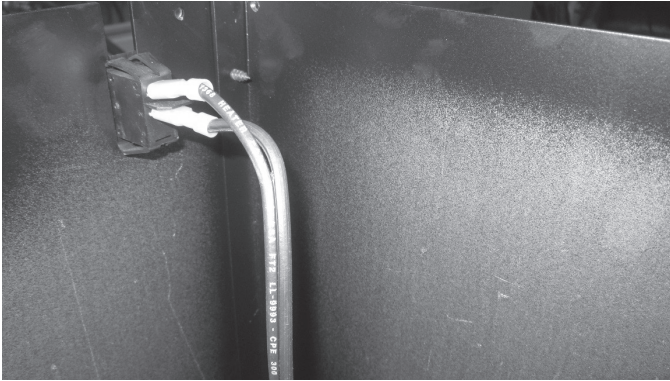

Figure 6.20
20. Connect the 1/4" insulated female connectors from wire (30007499) to the on/off switch. See Figure 6.20.